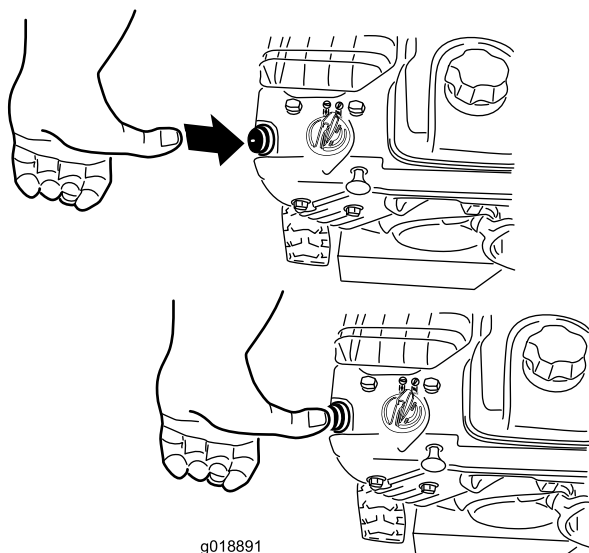

Figure 23
4. Firmly push in the primer with your thumb 2 times (15°F or -9°C or above) or 4 times (below 15°F or -9°C), holding the primer in for a second before releasing it each time (Figure 23).